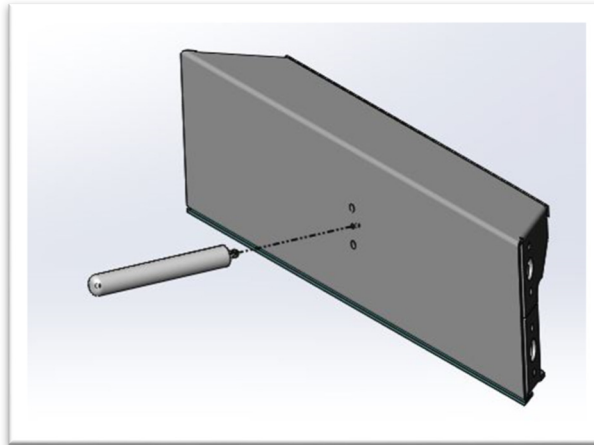

Figure 4 Installation of the spacer on the Noise Abatement Panel, Back
- 4 Screw the spacer on the Noise Abatement System, as shown in figure 4: